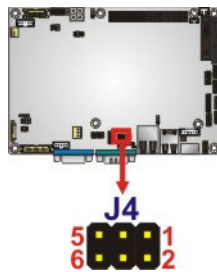

Figure 4-5: COM 3 Function Select Jumper Location
- Jumper Location:** See Figure 4-5
Jumper Location:	See Figure 4-5